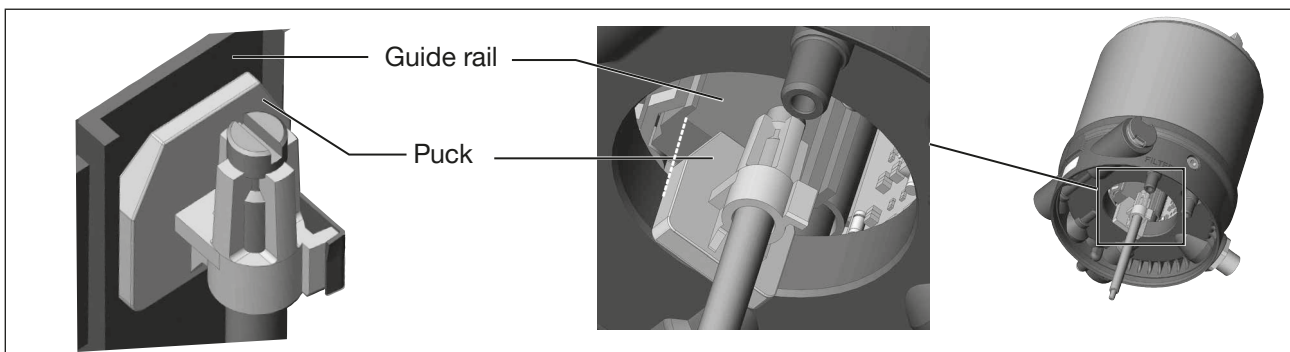

Figure 21: Aligning the puck
1. the puck can be inserted into the guide rail of the positioner (see “Figure 21”) and